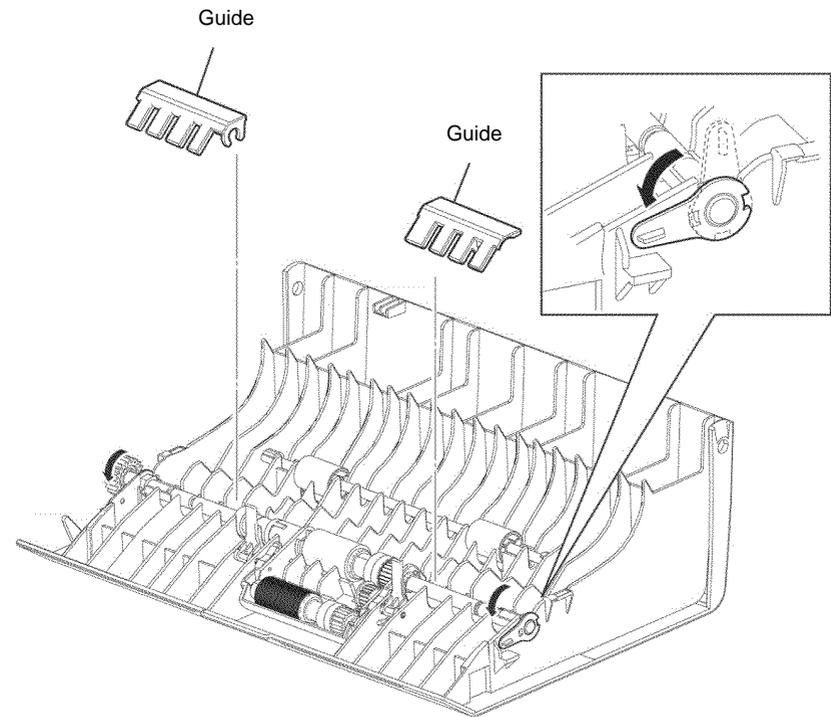

Figure 2 DADF feed roller assembly installation
2. Set the boss of the DADF roller assembly into the hole of the DADF top cover, Figure 2.
3. Position the two guides on the DADF roller assembly, Figure 2.